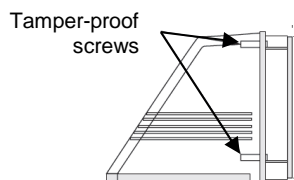

Figure 1
1. Open the fixture by loosening the tamper-proof screws on the side (See Fig. 1) and open the front housing. (See Fig. 2). Tamper-proof drill bit provided in hardware bag. (Remove the driver from the base die cast to clear the mounting space if needed).